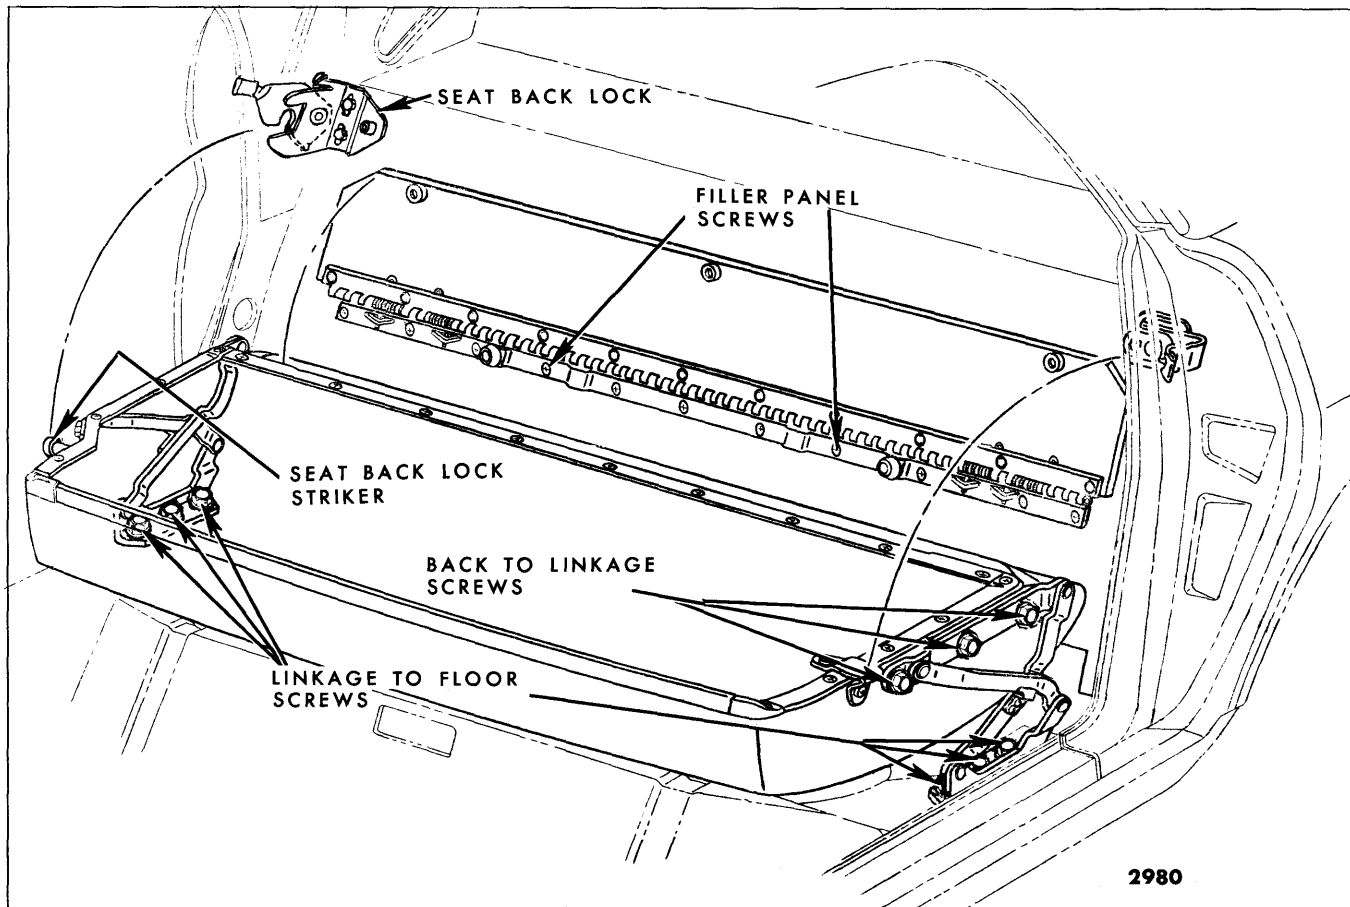

Fig. 15-49—Folding Rear Seat Back Assembly - Corvairs
2. Lower folding seat back; then, remove three screws from both sides of seat back securing seat back to folding linkage (Fig. 15-49).
2. Mark position of linkage on floor pan. Remove bolts securing folding seat back linkage to floor pan (Fig. 15-49) and remove linkage.
2. Remove lock attaching screws (Fig. 15-49) and remove lock assembly from rear compartment front panel.